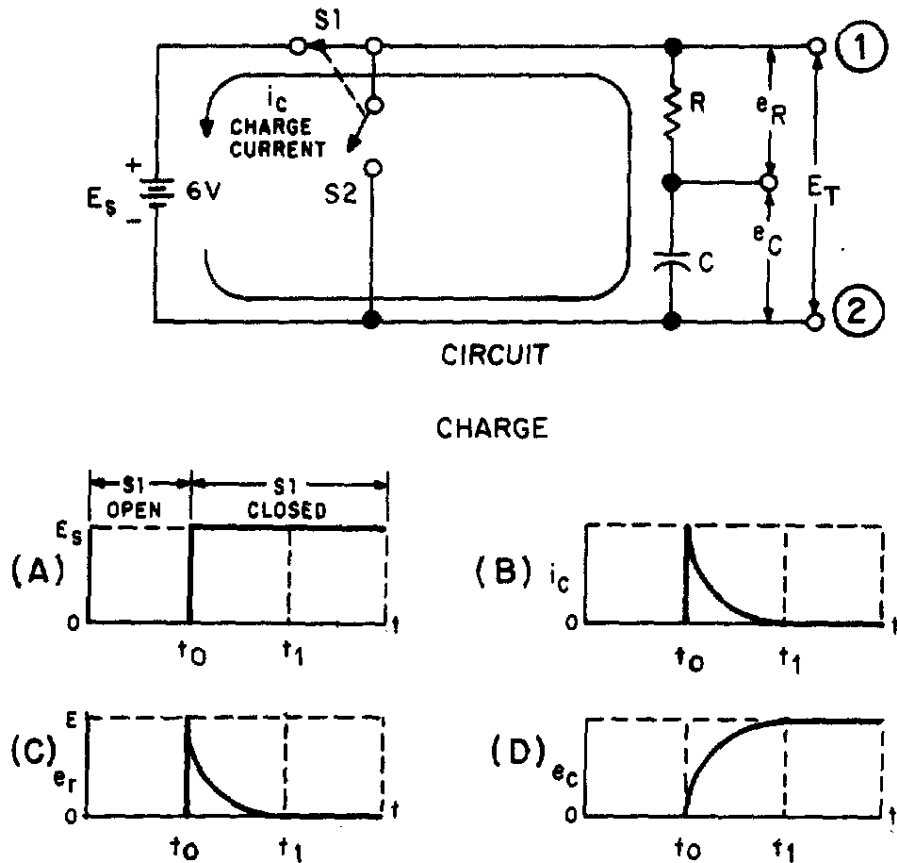
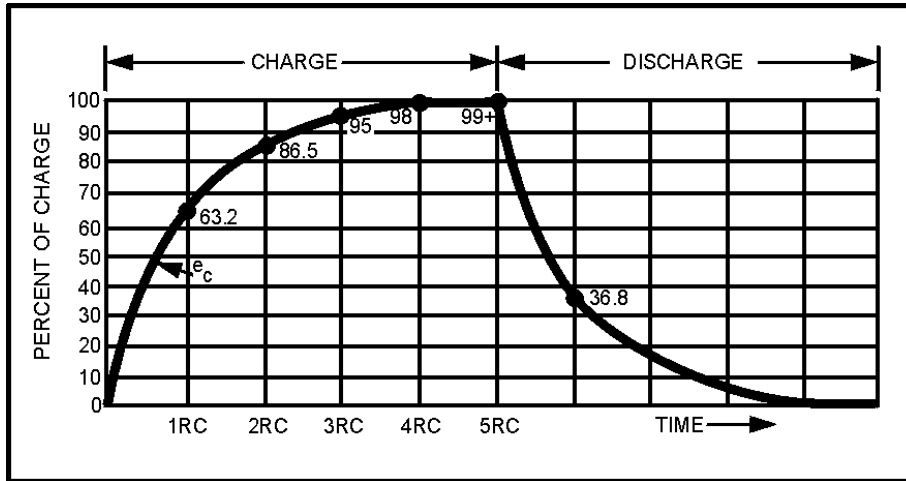

Figure 3-9.—Charge of an RC series circuit.
Figure 3-11.—RC time constant.
A voltage divider containing resistance and capacitance is connected in a circuit by means of a switch, as shown at the top of figure 3-9. Such a series arrangement is called an RC series circuit.
When switch S1 of the circuit in figure 3-9 is closed at  $t_0$ , the source voltage ( $E_s$ ) is instantly felt across the entire circuit. Graph (A) of the figure shows an instantaneous rise at time  $t_0$  from zero to source voltage ( $E_s = 6$  volts). The total voltage can be measured across the circuit between points 1 and 2. Now look at graph (B) which represents the charging current in the capacitor ( $i_c$ ). At time  $t_0$ , charging current is MAXIMUM. As time elapses toward time  $t_1$ , there is a continuous decrease in current flowing into the capacitor. The decreasing flow is caused by the voltage buildup across the capacitor. At time  $t_1$ , current flowing in the capacitor stops. At this time, the capacitor has reached full charge and has stored maximum energy in its electrostatic field. Graph (C) represents the voltage drop ( $e$ ) across the resistor (R). The value of  $e_r$  is determined by the amount of current flowing through the resistor on its way to the capacitor. At time  $t_0$  the current flowing to the capacitor is maximum. Thus, the voltage drop across the resistor is maximum ( $E = IR$ ). As time progresses toward time  $t_1$ , the current flowing to the capacitor steadily decreases and causes the voltage developed across the resistor (R) to steadily decrease. When time  $t_1$  is reached, current flowing to the capacitor is stopped and the voltage developed across the resistor has decreased to zero.
The time required to charge a capacitor to 63 percent (actually 63.2 percent) of full charge or to discharge it to 37 percent (actually 36.8 percent) of its initial voltage is known as the TIME CONSTANT (TC) of the circuit. The charge and discharge curves of a capacitor are shown in figure 3-11. Note that the charge curve is like the curve in figure 3-9, graph (D), and the discharge curve like the curve in figure 3-9, graph (B).
The graphs shown in figure 3-11 and 3-12 are not entirely complete. That is, the charge or discharge (or the growth or decay) is not quite complete in 5 RC or 5 L/R time constants. However, when the values reach 0.99 of the maximum (corresponding to 5 RC or 5 L/R), the graphs may be considered accurate enough for all practical purposes.